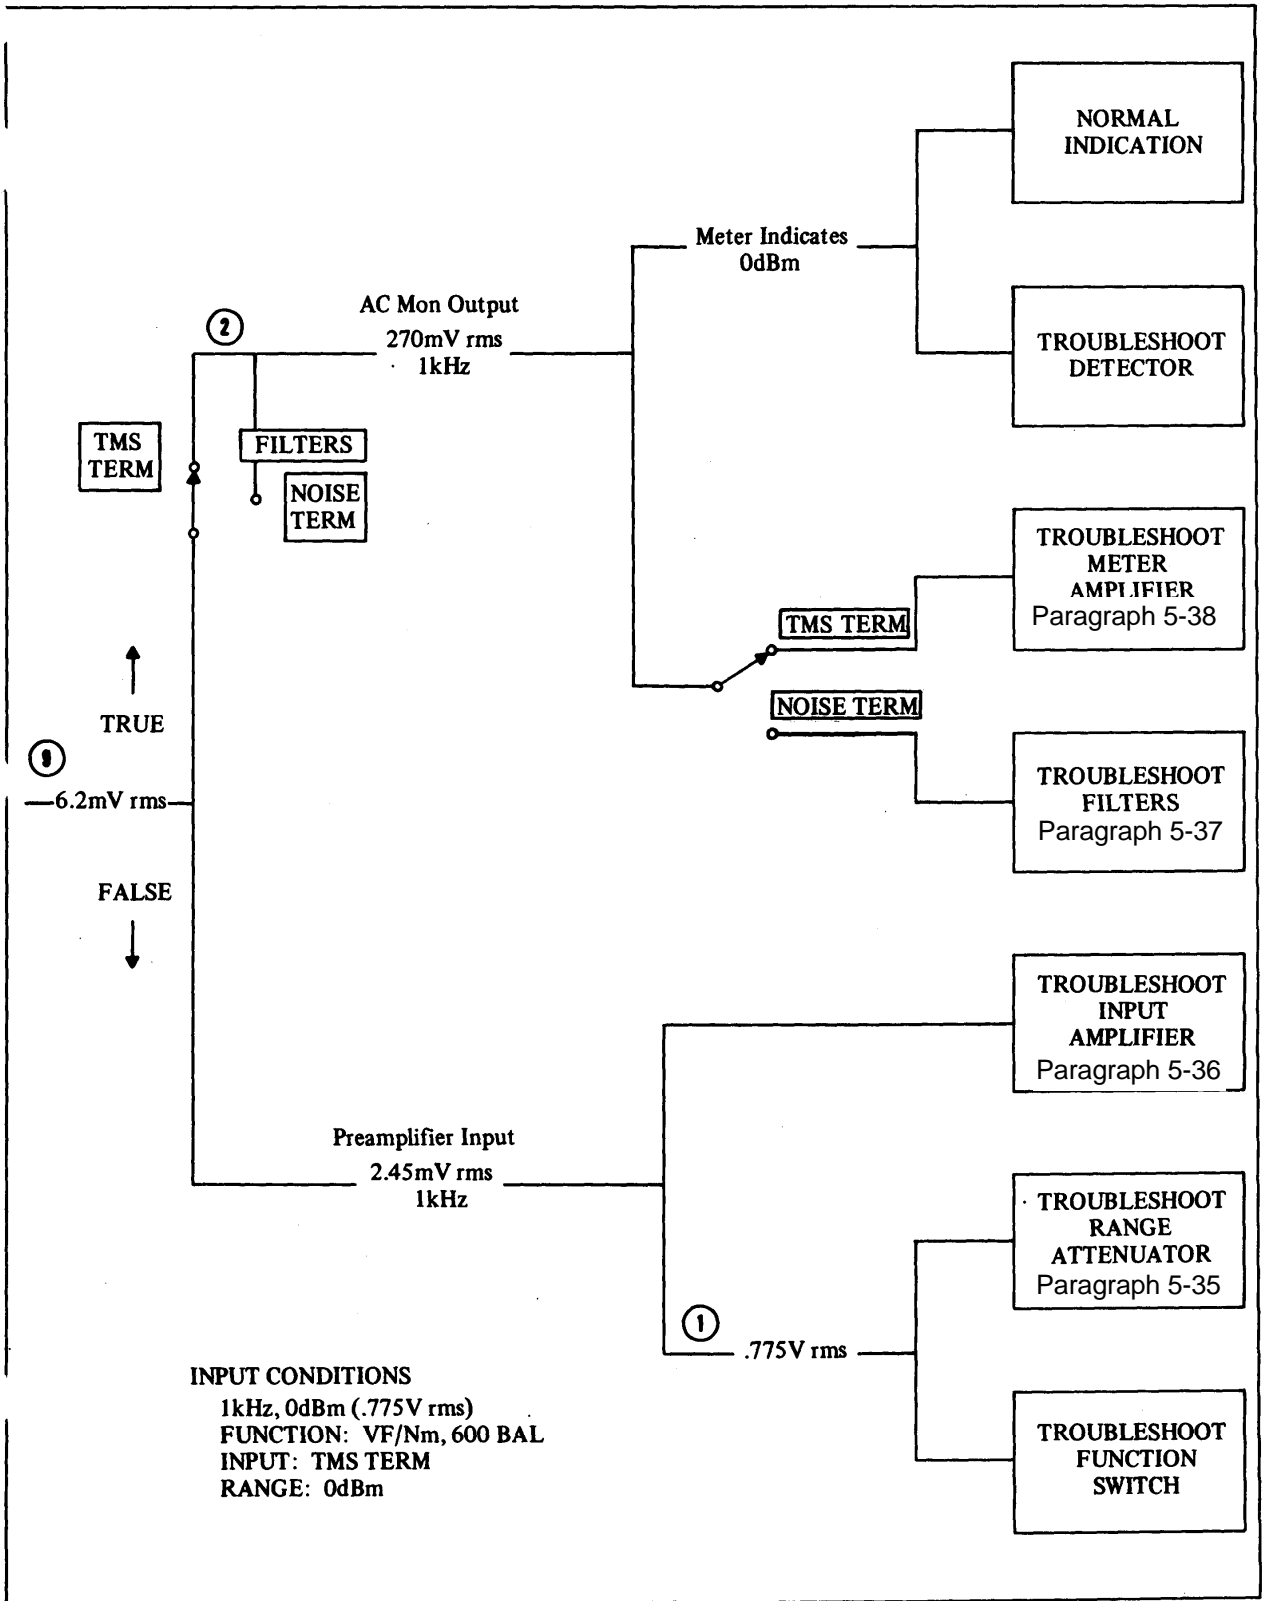

Figure 5-8. Troubleshooting Tree
- a. Troubleshooting Tree - - The troubleshooting tree (Figure 5-8) is based on the half-split method of troubleshooting a set. The trouble can be isolated to a general area or block using this tree. Once the trouble has been isolated to an area, a reference is given to a paragraph where more specific information can be found.
- Inject a 1kHz, 0dBm signal (.775V rms) into the 3555B and set the INPUT switch to TMS TERM, RANGE to 0dBm and the FUNCTION to VF/Nm, 600 BAL. Measure the signal at the input of the meter amplifier (XA3 pin 9). The signal level should be 6.2mV rms. If not the malfunction is ahead of the meter amplifier (refer to troubleshooting tree, Figure 5-8).